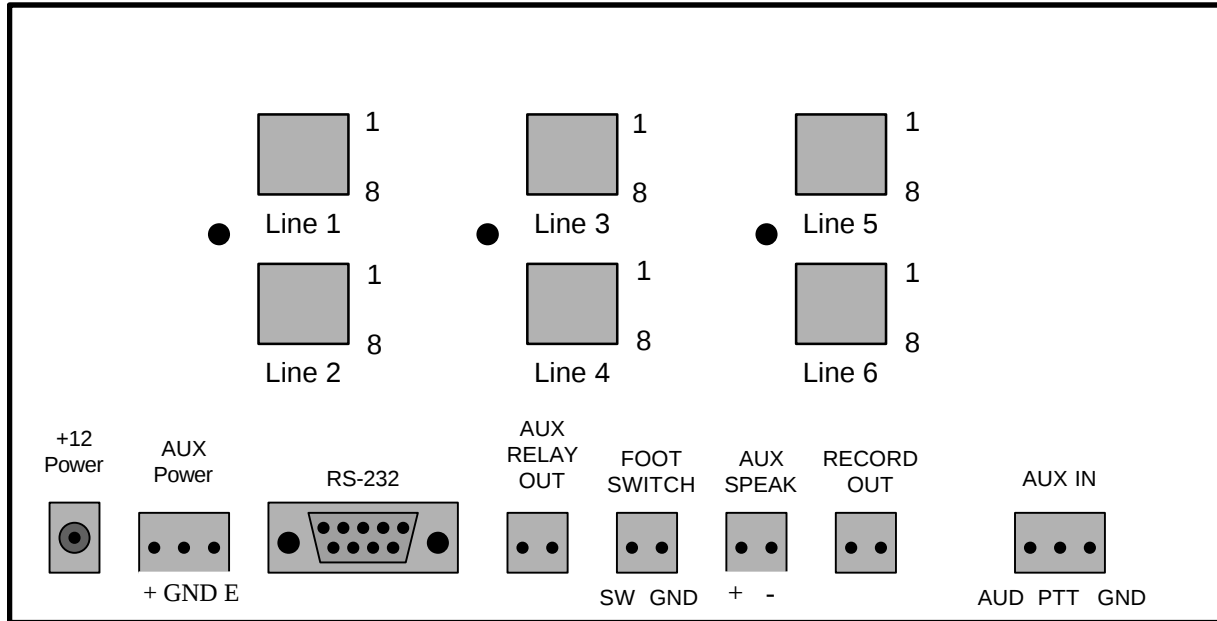
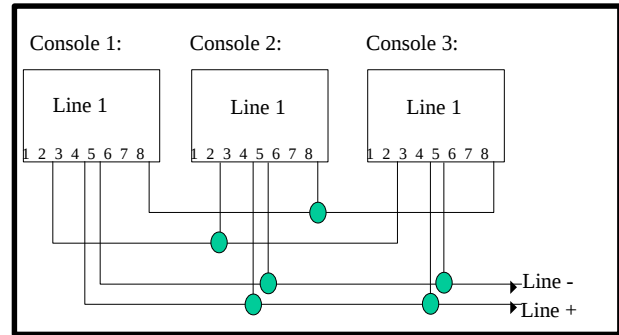

Figure 2 Rear Panel View
Figure 3 Supervisory Diagram
**Line Ports 1-6:** The C-1616 can accommodate up to six-lines, in multiples of two. The six-line connectors are available on the rear of the unit. The connectors are standard eight pin RJ-45 connectors. The pin out of the connector appears in Figure 3. The numbering of the pins are shown in Figure 2 for reference.
**Battery backup:** The Auxiliary power input is a diode-protected +12V input used for battery backup. Pin (E) is also connected to the chassis allowing for positive grounding of the unit.
The SUP Button is used to disable all units on a particular line. Its connection is similar to that of the crossmute function. Tech mode is utilized to determine which consoles will have supervisory capability. It is possible to setup only specific consoles with this feature. If a console has the feature enabled, by pressing the SUP Button, the Button will light and disable all connected paralleled consoles. On the consoles that are being supervised, the SUP Button will blink, if they have selected a line that the supervisor has selected. Figure 3 shows the connection scheme required to utilize this function. Pin 2 of all consoles are connected together. In addition, Pin 8 is also connected together on all consoles, serving as a common ground for all consoles. Assuming that console 1 has supervisory capability, when activated, Line 1 on parallel consoles 2 and 3 would then be inhibited.
Two six-foot cables are included with each card. The connector pins are assigned as shown in Figure 3.